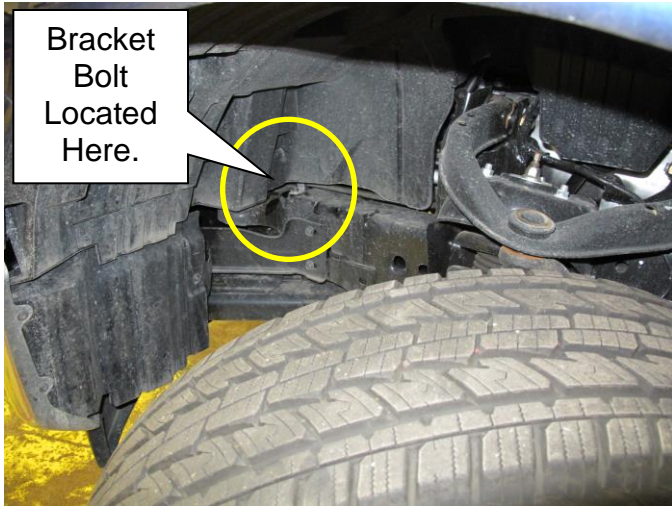

Figure 8
- Remove the power steering oil return line bracket bolt located inside the left fender well on the top of the frame (Figure 8, 9).